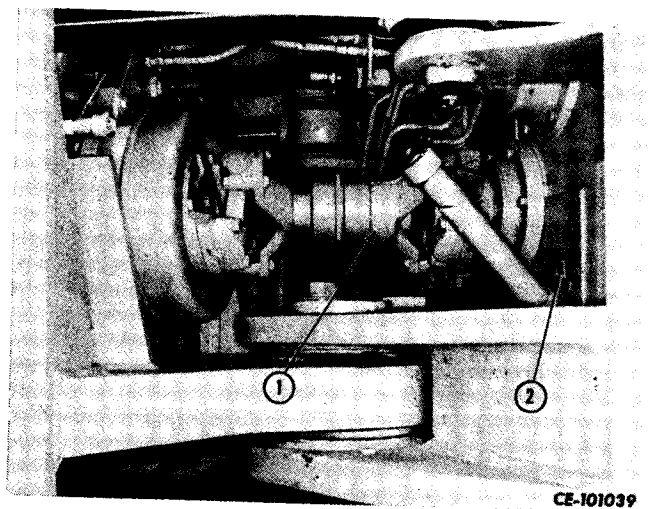

Figure 4-7
Disconnect transmission to parking brake drive shaft (1, Fig. 4-7) from transmission (2).